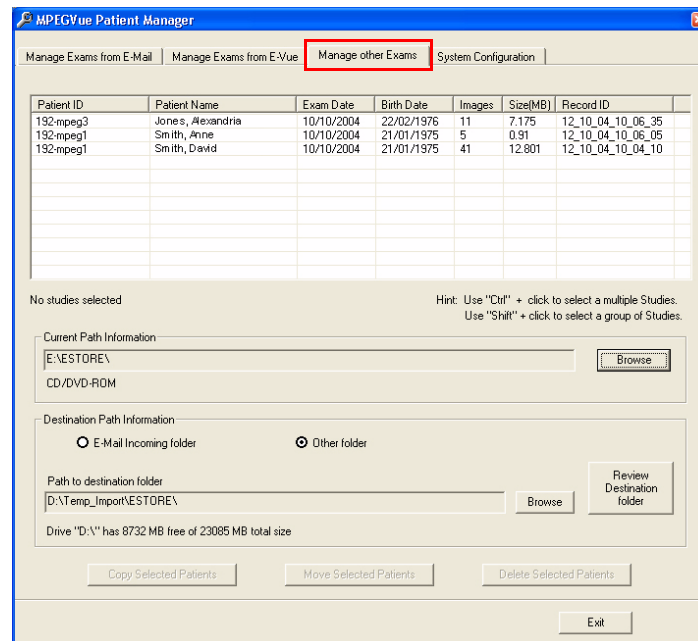

Figure 3-184 MPEGVue Patient Manager Window - Manage Other Exams Tab
- a.) Make sure the Manage Other Exams tab is activated as shown in Figure 3-184.
Once the user has specified any source directory that contains MPEGVue studies (these may be located on CD/DVD-ROM, DOK or any local hard drive), exam details are displayed (in table format) in the Patient List. The information shown includes *Patient ID*, *Patient Name*, *Exam Date*, etc. as seen in the example in Figure 3-184, above.